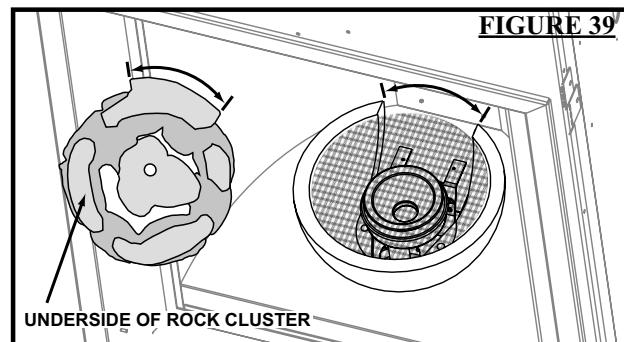

FIGURE 39
3. Carefully place the rocks on the bowl by lining up the locating notch on the underside of the rock cluster with the opening in the rear of the bowl. (Fig. 39)